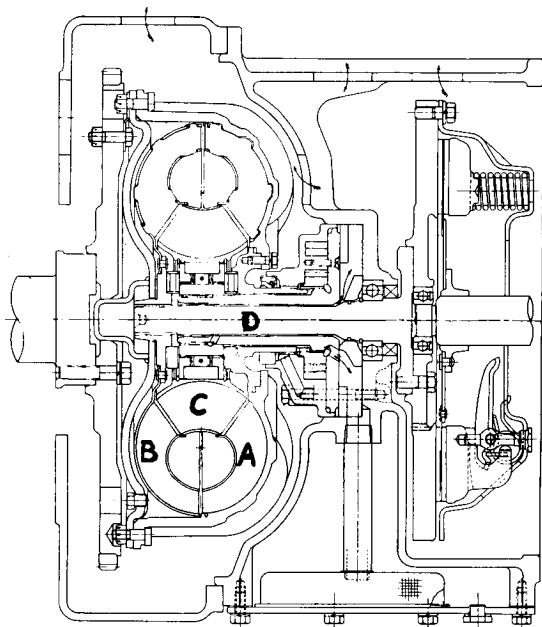

Fig. No. 1
The torque converter is a simple, three-element type, normally consisting of a converter impeller (pump A), a converter runner (turbine B), and a reaction runner (stator C). These parts, with the necessary bearings and seals, are coupled to an oil reservoir housing by means of the converter runner shaft (D) as shown in Fig. No. 1.